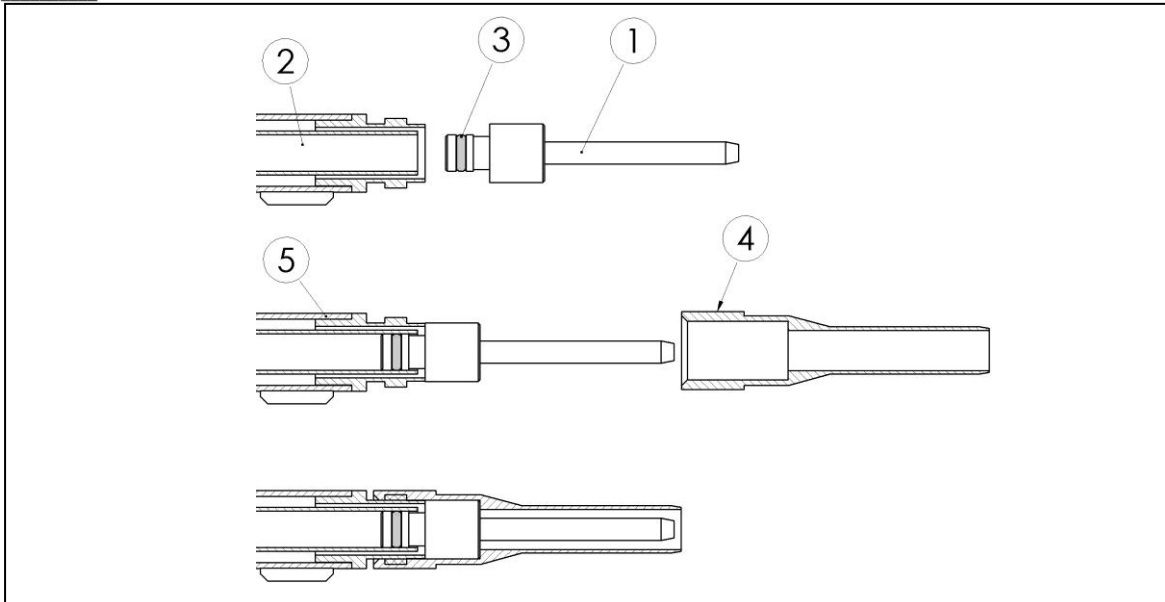

Figure 4
- ◆ Insert the oxygen injector (1) in the central oxygen lance (2) as described on the figure 4.
- **Check that the « Viton » joint (3) is correctly positioned in the injector groove.**
- ◆ Screw the fuel gas injector (4) on the fuel gas lance (5) as described on the figure 4.